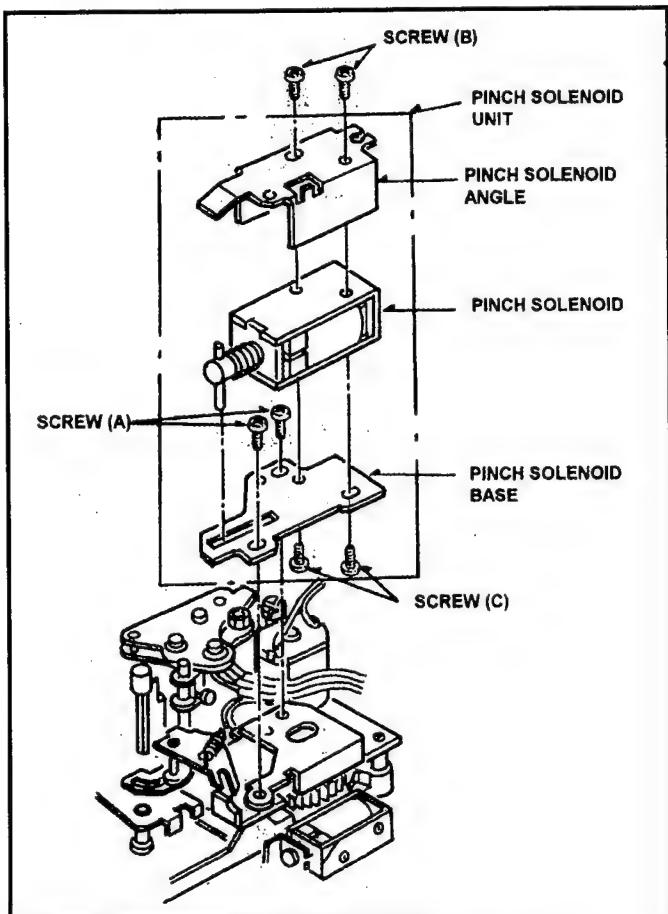

Fig. 4-9-1. Removal of Pinch Solenoid
1. Remove the Mechanical Unit (Refer to item 2-1, Removal of Mechanical Unit).
2. Unscrew the 2 screws (A) and remove the Pinch Solenoid Unit as shown in Figure 4-9-1.
3. Unscrew the 2 screws (B) and remove the Pinch Solenoid Angle as shown in Figure 4-9-1.
4. Unscrew the 2 screws (C) and remove the Pinch Solenoid from the Pinch Solenoid Base.